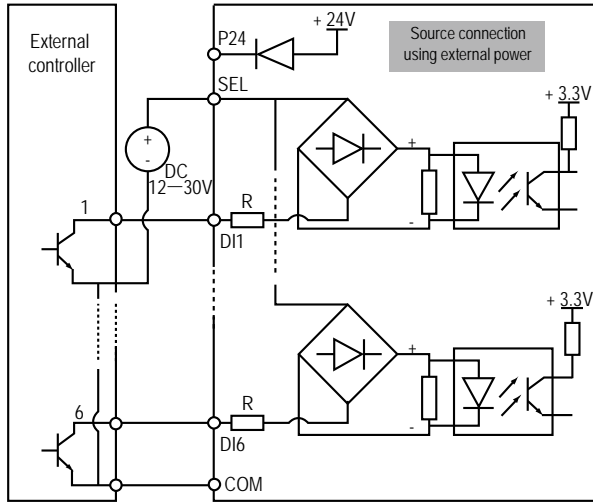

Figure 4-9 Source input connection when using external power
1. If the external power supply is used, the source connection is as shown in Figure 4-9. (Note that the SEL and the P24 are not short-circuited)